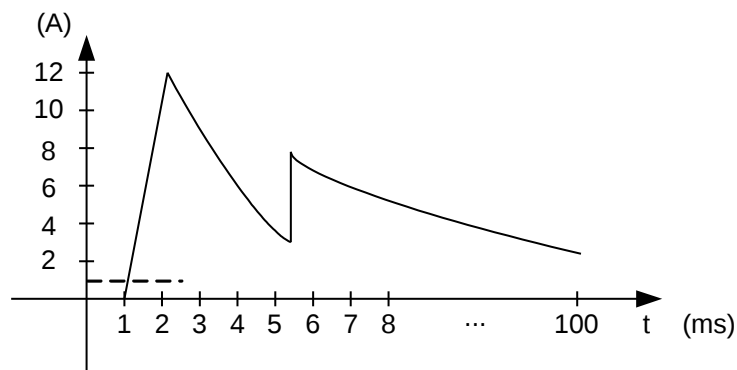

Figure 4-41 Measuring Inrush Current (1)
Users can use the following setting to measure the Inrush current (1) in Figure 4-41.
From Figure 4-41 it can tell that the current exceeds the trigger current (1A) around 1.1ms and since the time delayed is 0 second, the 66202 Power Meter starts to measure the Inrush current and the maximum Inrush current can be measured is 12A approximately.